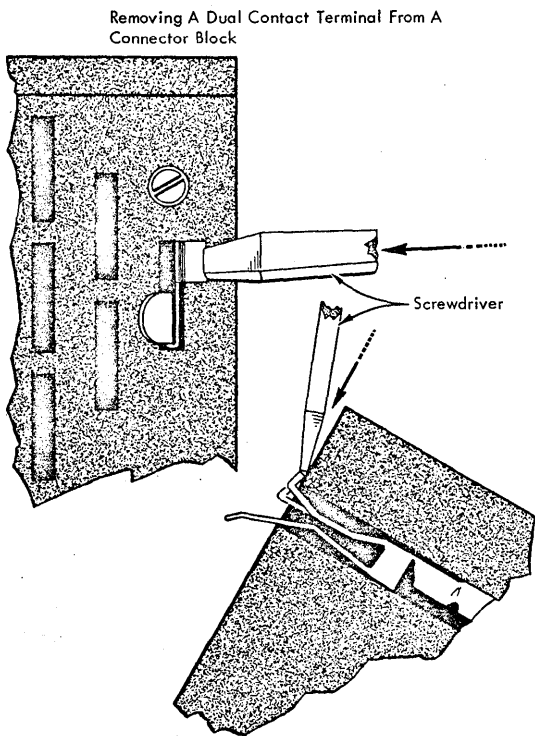

Figure 4-1. Removing a Dual Contact From a Connector Block
3. Push the ear of the contact back until it clears the edge of the hole. See Figure 4-1. Pull the contact from the hole.